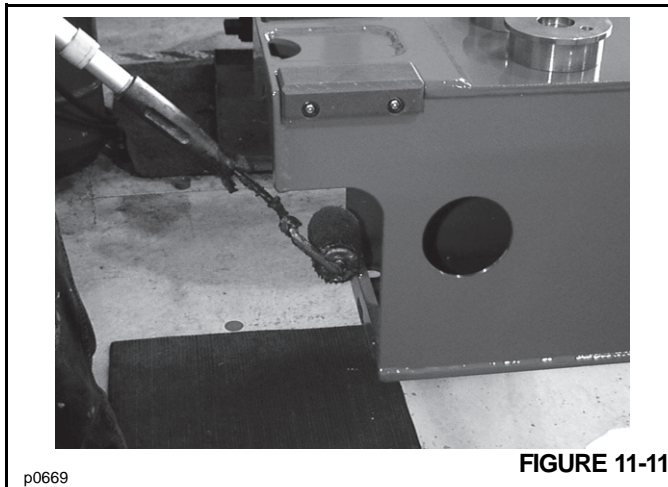

FIGURE 11-11
1. Coat the entire lower inside surface of the 2nd boom section with an anti-seize compound using a roller and rod (Figure 11-11). Coat the upper inside surface, where